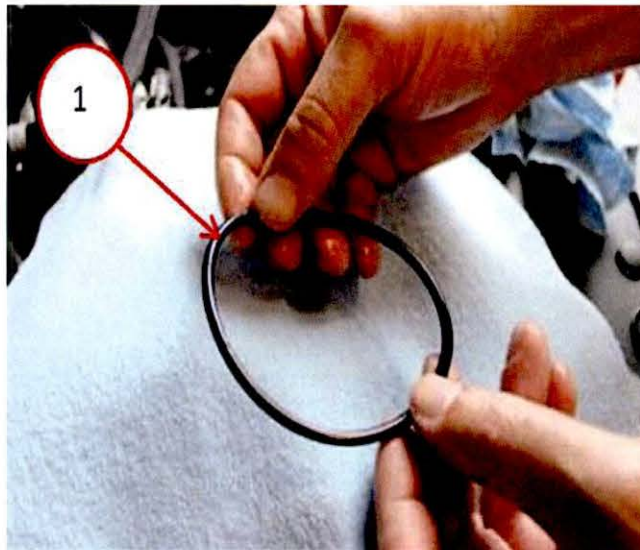

Fig. 4 Lube O-Ring
6. Lubricate and install the new oil filter cap O-ring gasket (Fig. 4). Make sure the oil filter cap O-ring is in the correct location.